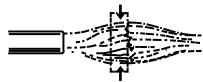
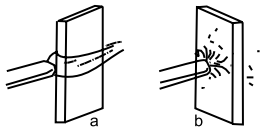

Figure 4: Maximum Heat Zone
Figure 5: Heat Angle
**2. Heating Technique:** The maximum heat zone is very concentrated. It is located between 10-20mm away from the end of the tip (Figure 4). If you hold the torch too close or too far away, there will be noticeably less heat. Adjusting the appropriate heating angle can also increase the heat of the target (Figure 5).